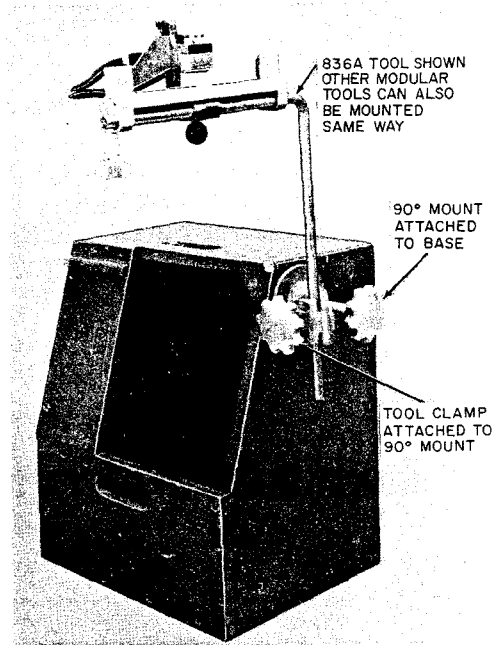

Fig. 14—Tools Setup on Splicers Box
4.11 Mount the 890A tool as shown in Fig. 14 through 17 and on the B support frame assembly as shown in Fig. 27.